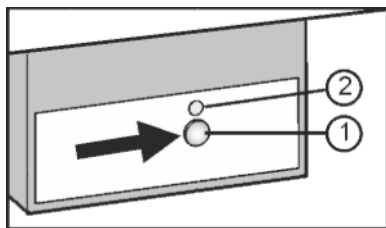

Fig. 19
- ▶ Press the On/Off button Fig. 19 (1) so that the LED Fig. 19 (2) shines.